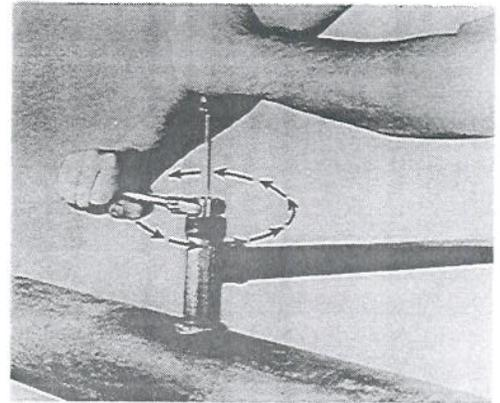

FIGURE 22
4. Hold the stem in the closed position with the screw driver in one hand and BACK OFF the bronze bushing with a wrench held in the other hand. (Do not permit the stem to turn, however, turn the bushing approximately two full turns **counter-clockwise**.) Differential threads provide the seating force. **Figure 22.**